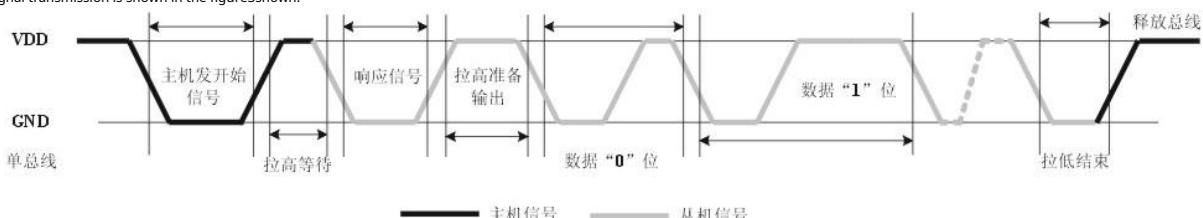

Figure 3 Data timing diagram
**Note:** To ensure accurate communication of the sensor, the user should strictly follow the parameters and timing in Table 4 and Figure 3 when reading the signal.